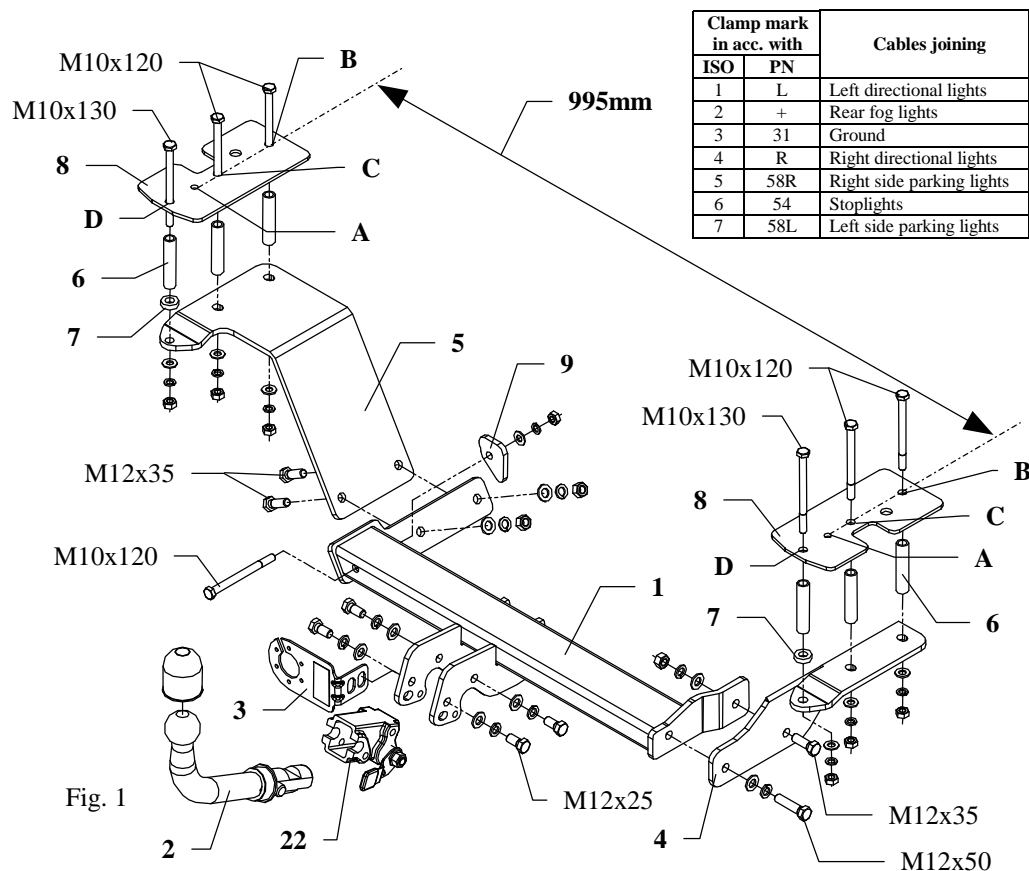
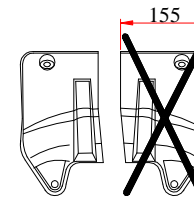

Fig. 1
Fig. 2
3. Fish-plates (pos. 8) put in this way so holes A agree with holes after luggage holders disassembly. Arrange fish-plates parallel with chassis lines and according dimension from figure 1. Next through holes B and C drill holes using bit $\phi 11\text{mm}$ and through holes D drill holes using bit $\phi 18\text{mm}$.
4. Through holes D put distance sleeves $\phi 17$ (pos. 6), put fish-plates pos.8 at the end put bolts M10x120mm (pos.14) and M10x130mm (pos. 13). See figure 1.
- on the left side – on protruding bolts put left bracket (pos. 5). Put distance sleeves pos. 6 before! Twist on..
- NOTE!** Use thick washer $\phi 25 \times 6\text{mm}$ (pos. 7) on hole D (see figure 1).
- on the right side – on protruding bolts put right bracket (pos. 4). Put distance sleeves pos. 6 before! Twist on loosely.
6. Between installed side brackets (pos. 4 and 5) put main bar of the towing hitch (pos. 1) and fix using bolts M10x120mm, M12x35mm and M12x50mm. See figure.
7. Reassemble thermal shield after cut out fragment according to figure 2.
9. Fix body of the automat (pos. 22) and the socket plate (pos. 3) using bolts M12x25mm (pos. 10) from accessories. Place tow-ball (pos. 2) according to supplied instruction.